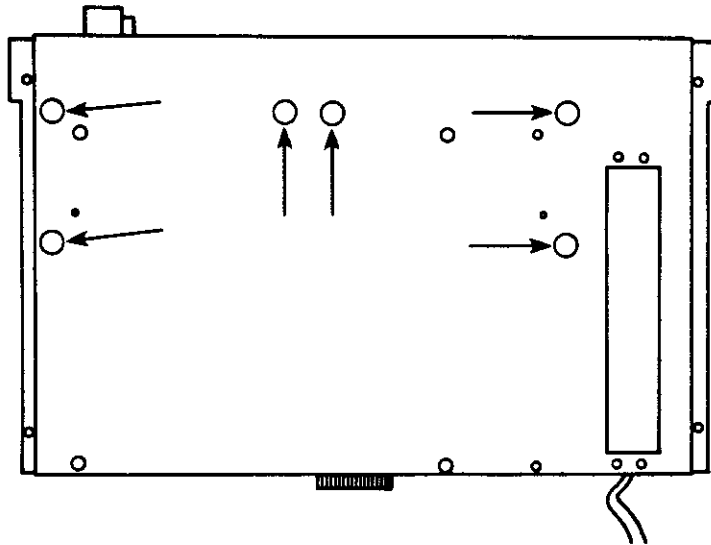

Figure 3-1: MD I/MD II Drive Removal - Revision A Chassis
1. Turn the unit upside down and remove the three screws that anchor the drive you wish to remove. Figure 3-1 points out the positions of the screws for both drives.